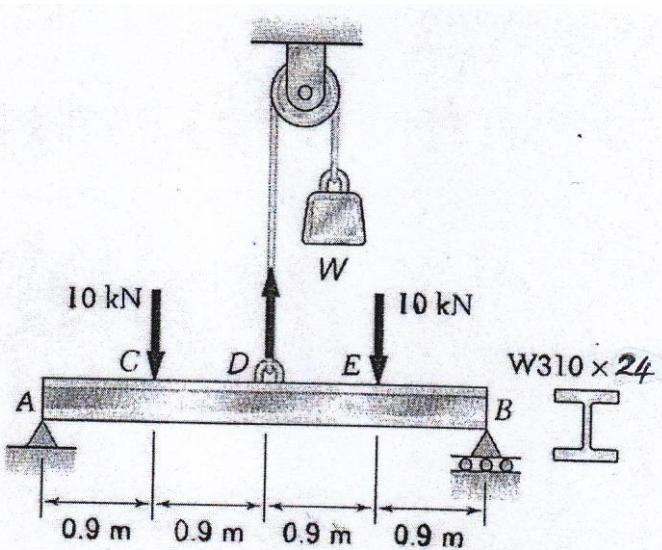

Figure 5
3. Figure 5 shows an I beam system. Knowing that  $W = 15 \text{ kN}$ , draw the shear and bending-moment diagrams for the beam AB and determine: